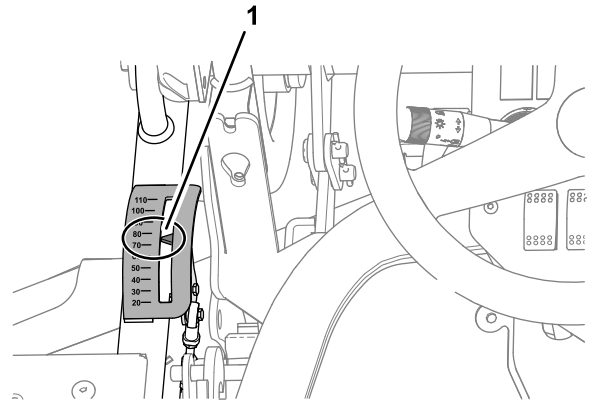
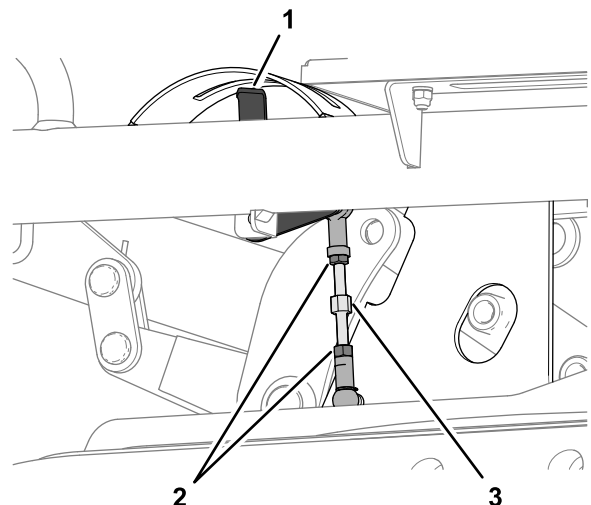

Figure 130
Figure 131
2. Sit in the operator's seat and look at the pointer of the height-of-cut indicator (Figure 130).
- A. Loosen the 2 jam nuts that secure the height-of-cut link (Figure 131).
- B. Rotate the link until the pointer of the height-of-cut indicator is aligned to 75 mm mark when viewed from the operator's seat (Figure 130 and Figure 131).
- C. Tighten the 2 jam nuts (Figure 131).